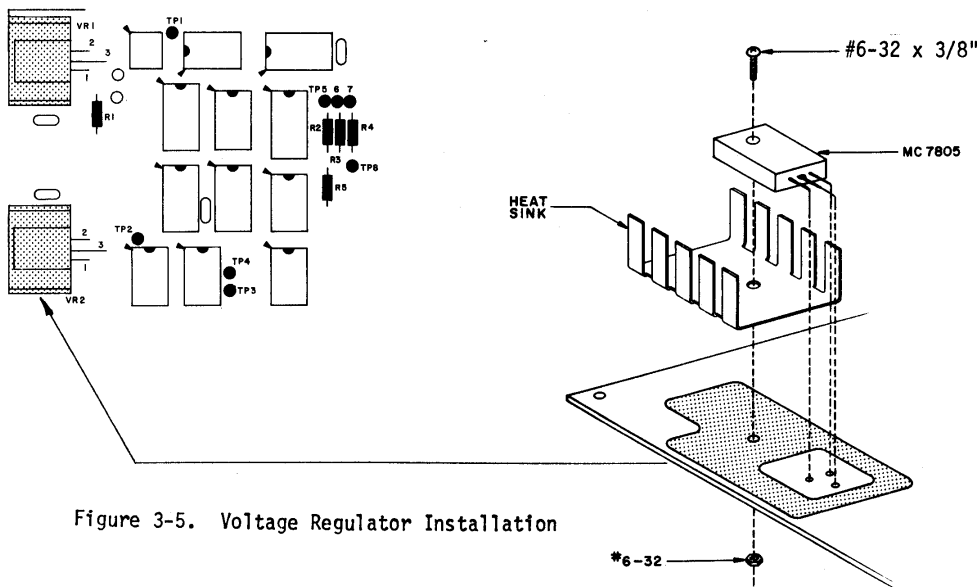

Figure 3-5. Voltage Regulator Installation
(Figure 3-5)
3. Referring to Figure 3-5, set the regulator and heat sink in place on the silk-screened (top) side of the board and secure them with a #6-32 x 3/8" screw and 6-32 nut.